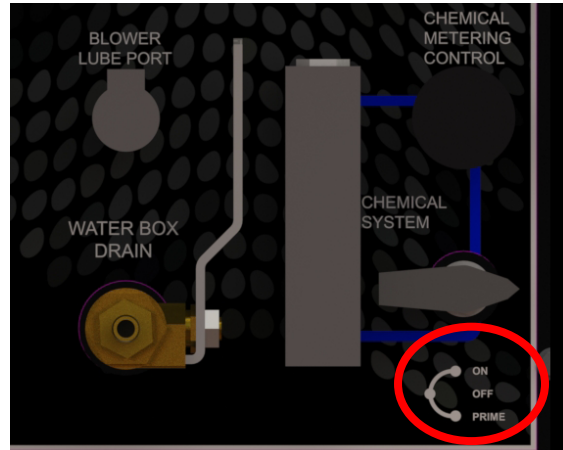

Figure 6. Location of Chemical System Switches
4. Turn the “CHEMICAL SYSTEM” switch to the “PRIME” position to purge any air from the system (see Figure 6).